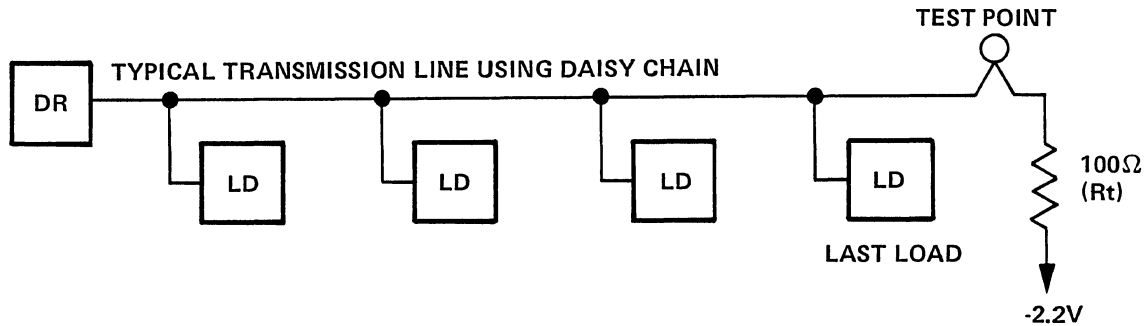

Figure 4-4. Daisy Chain
- b. Daisy chaining, as shown in figure 4-4.
Figure 4-4 also shows where a test point is located on a terminated line. Note that a test point is always between the last gate load and the terminator. This permits a continuity check of the line and measurement of pulse timing at the load point.